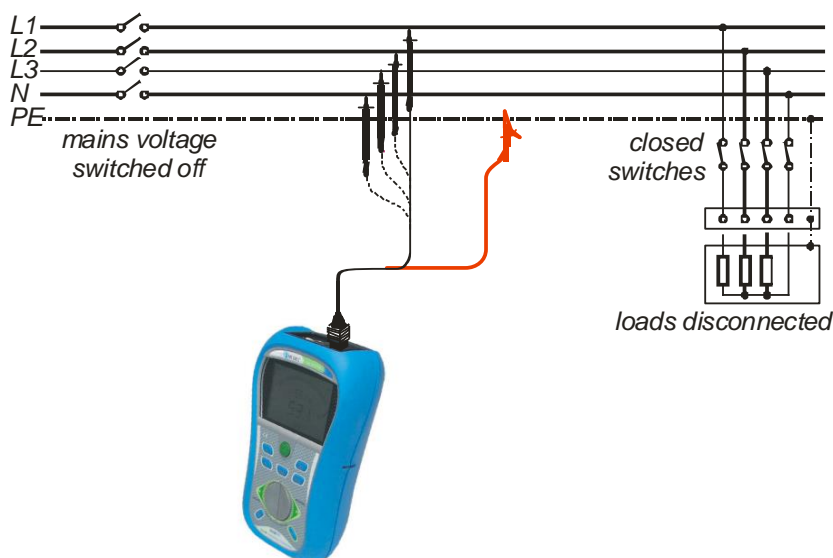
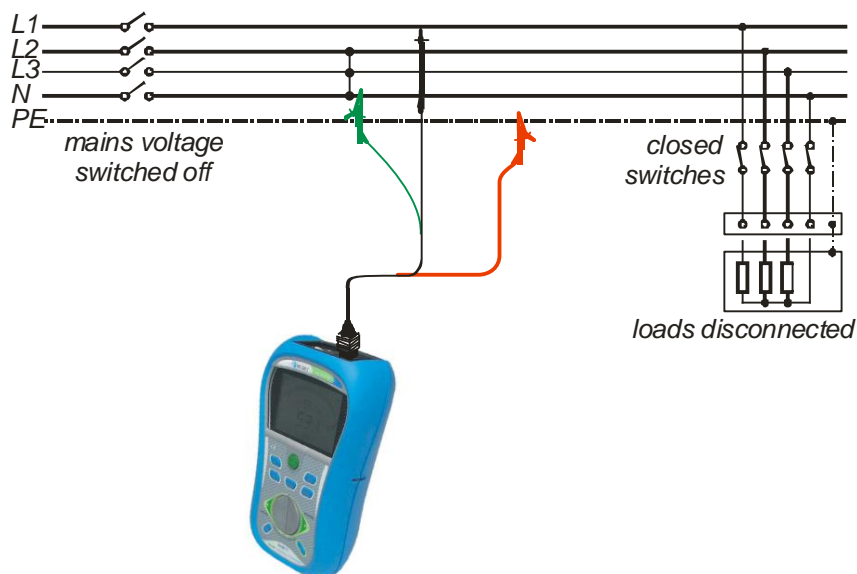

Figure 5.2: Connection of 2-wire test lead
Figure 5.3: Connection of optional 3-wire test lead (A 1319)
- ❑ **Connect** test lead to the top of the instrument and to the item to be tested (see **Figure 5.2** and **Figure 5.3**).
It is recommended to use the GUARD connection when high insulation resistance (>10G Ω) is measured. You need optional 2.5 kV 3-wire test lead (**Figure 5.3**).